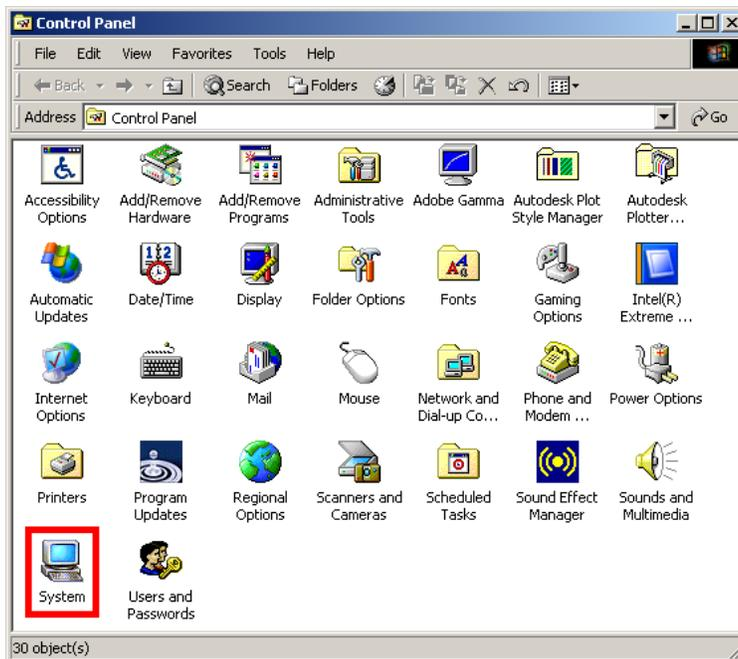

Figure 6-20: System Icon
Step 2: Double-click the System icon (Figure 6-20).